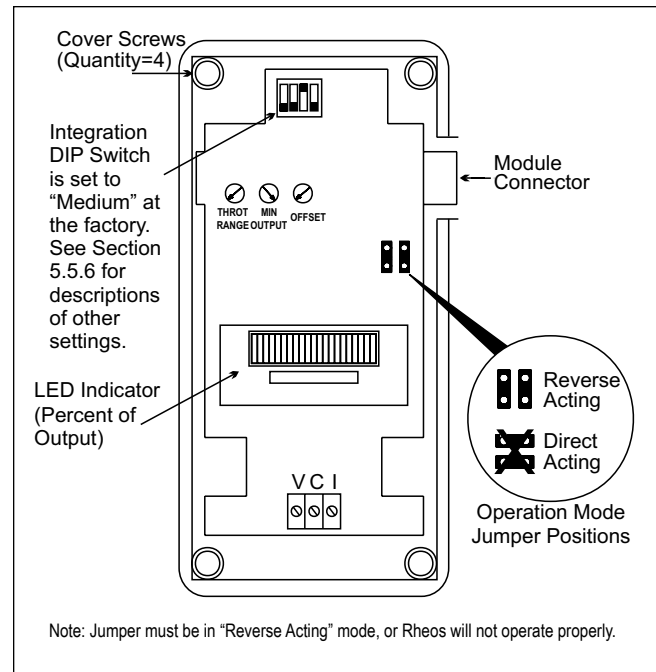

Figure 14. Proportional Control.
The offset can be adjusted between 0°F and 30°F (0°C and 17°C) by removing the cover of the S350P control and adjusting the Offset dial (see Figure 14).
The throttling range is adjustable between 2°F and 30°F (1°C to 17°C). The range can be set by removing the cover of the S350P control and adjusting the "THROT RANGE" dial (see Figure 14).
The minimum output setting of the controller is 0% of full fire. However, the minimum output of the Rheos is limited to 50% of full fire by the fan speed controller, to ensure proper operation of the Rheos. If a minimum desired output is higher than 50%, the setting can be adjusted up by removing the cover of the S350P control and adjusting the Min Output dial (see Figure 14). Turning the dial clockwise increases the minimum output. In most cases, this setting should be left as shipped from the factory, with the arrow pointing to the 5 o'clock position.
The proportional control used on the Rheos has internal circuitry that helps to minimize overshoot that can sometimes be associated with proportional plus integral (PI) controls. There are three field-selectable integration constants (slow, medium and fast), and an off position on the proportional control, which are selected with the dipswitches on the control (see Figure 14). In most cases, this setting will not need to be changed